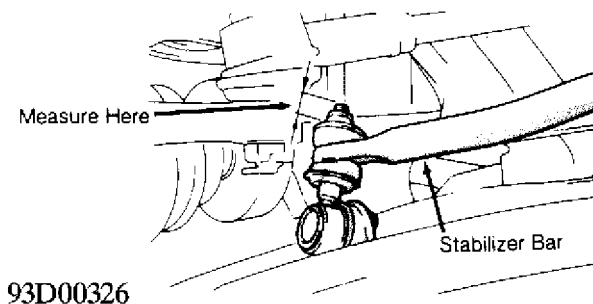

Fig. 3: Tightening Stabilizer Bar Link Nut (Typical)
4) Tighten stabilizer link nuts until distance from end of bolt to nut is .12-.20" (3.0-5.1 mm). See Fig. 3. Lower vehicle and tighten remaining stabilizer bar fasteners to specification. See TORQUE SPECIFICATIONS table at end of article.